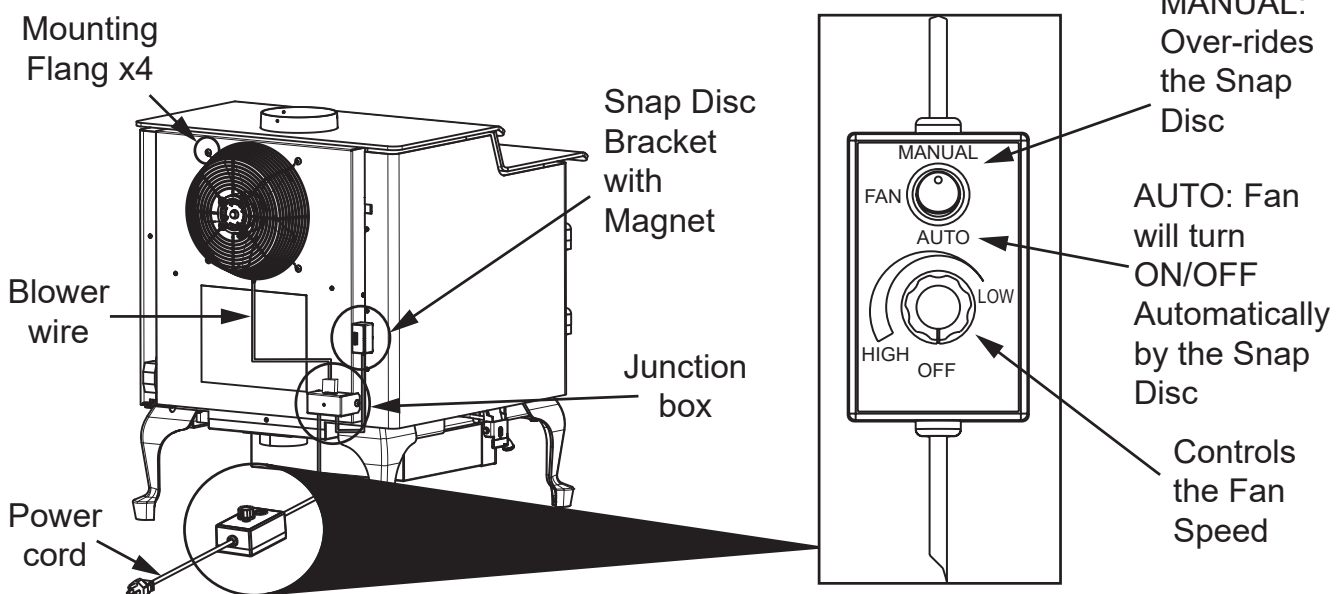

Figure 24.1
NOTE: Blower wire should be positioned towards the bottom as shown in **Figure 24.1**
4. Using #2 Phillips head screwdriver and 4x screws secure blower to appliance (**Figure 24.1**).
6. Install junction box to the bottom right back of the appliance shown in **Figure 24.1** by inserting tab into slot and aligning flange; secure with 1x screw by using #2 Phillips head screwdriver.
7. Place the bracket containing the snap disc and magnet lower right side of the appliance as shown in **Figure 24.1**.